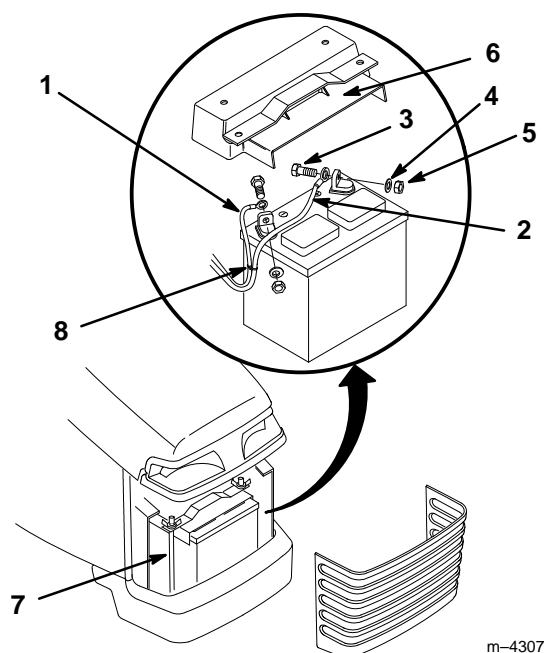

Figure 53
3. Remove the battery shield (Fig. 53).
4. Disconnect the negative (black) ground cable from the battery post (Fig. 53).
5. Disconnect the positive (red) cable from the battery post (Fig. 53).
1. Place the battery onto the chassis (Fig. 53).
2. Using the bolt, washer and locknut, connect the positive (red) cable to the positive (+) battery post (Fig. 53).
3. Using the bolt, washer and locknut, connect the negative (black) cable to the negative (–) battery post (Fig. 53).